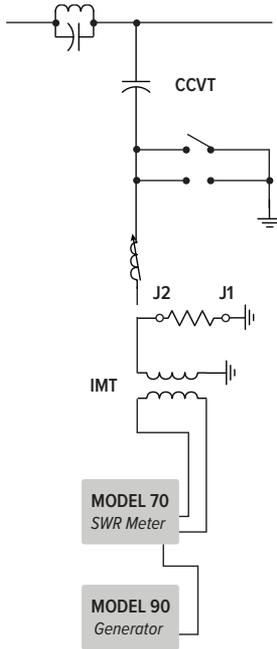

FIG 3 - IMT TEST CONNECTIONS
7. Connect the Model 630 test box white terminal (J2) to the output of the impedance matching transformer & the black terminal (J1) to ground (See Figure 3). This connects the test box for resistance only